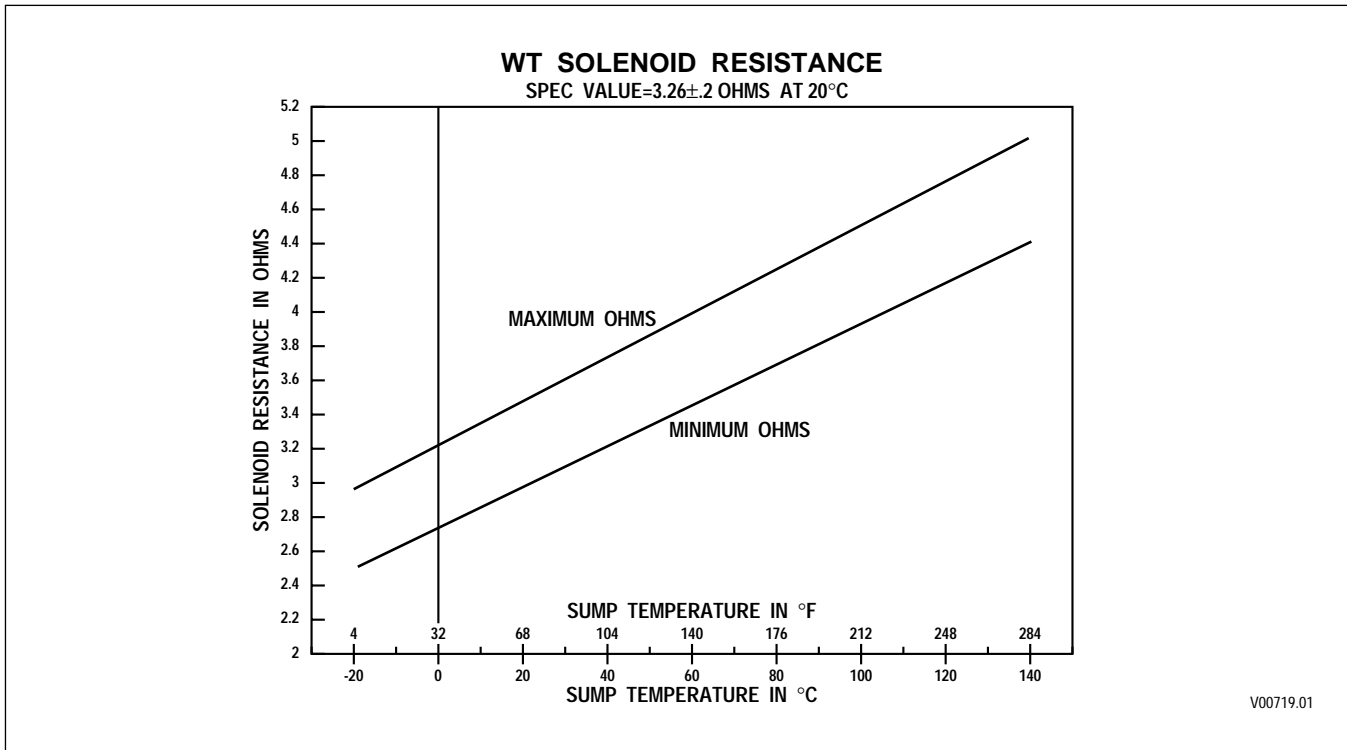

Figure 6–31. Solenoid Resistance vs. Temperature
CODE 42 XX — SHORT-TO-BATTERY IN SOLENOID CIRCUIT*(Figures 6–24, 6–25)*
CODE 43 XX — SOLENOID LOW SIDE CIRCUIT, OPEN DRIVER, OR WIRE SHORTED-TO-GROUND (Figures 6–27, 6–28)
2. If the external harness-to-transmission connection is satisfactory, check the solenoid circuits at the transmission connector for a short-to-chassis ground or a short-to-ground wire. (Tool J 38850 may be useful in making this test.) If a short is found, drain the fluid, remove the control module (refer to the Service Manual), isolate and repair the short. The short will probably be in the internal wiring harness (refer to Figure 6–1 for solenoid location).
(Figures 6–29, 6–30)
When testing the control system from the feedthrough connector with the internal harness connected, contact with the following pairs of terminals will result in resistance measurements of two solenoids through a shared ground. The resistance should be twice that of a single solenoid. Refer to Figure 6–31 for resistance values versus temperature.
(*Figures 6–29, 6–30*)**Troubleshooting:**
2. If the connector is connected, clean, and not damaged, check the solenoid circuit in the transmission for shorts to other wires. (Tool J 38850 may be useful in making this test.) Refer to the system schematic and/or chart to identify wires in the internal harness which are connected. If the short circuit is found, drain the fluid, remove the control module (refer to the transmission Service Manual), and isolate the short. The short is probably in the feedthrough connector, internal harness, or the solenoid itself (refer to Figure 6–1 for solenoid locations).
(Figures 6–32, 6–33)
CODE 45 XX — OPEN CONDITION IN SOLENOID CIRCUIT*(Figures 6–32, 6–33)***Troubleshooting:**
2. If the connector is connected, clean, and not damaged, check the solenoid circuit in the transmission for opens. Refer to the system schematic and/or chart to identify wires in the internal harness which are connected. If the open circuit is found, drain the fluid, remove the control module (see the transmission Service Manual), and isolate the open. The fault will be in the feedthrough connector, internal harness, or the solenoid itself (see Figure 6–1 for solenoid locations).